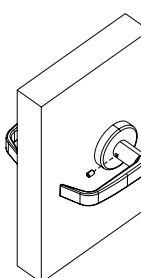

Figure 11
- Use the set screw to fix the inside lever. (Figure 11)